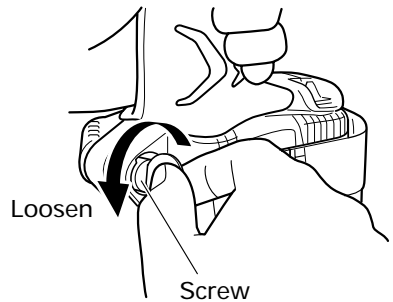

Fig. 10
- Securely hold the main unit and remove the screw using a slotted head screwdriver or a coin. (Fig. 10)
- Install the hook and spring on the other side and securely fasten with screw. (Fig. 10)